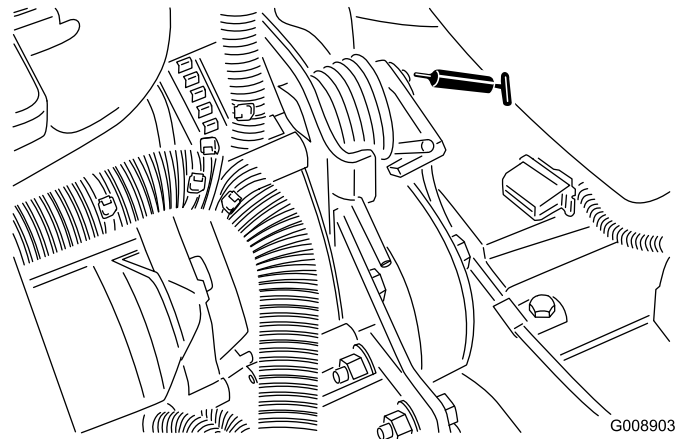

Figure 36
- Belt-tension pivot (Figure 36)